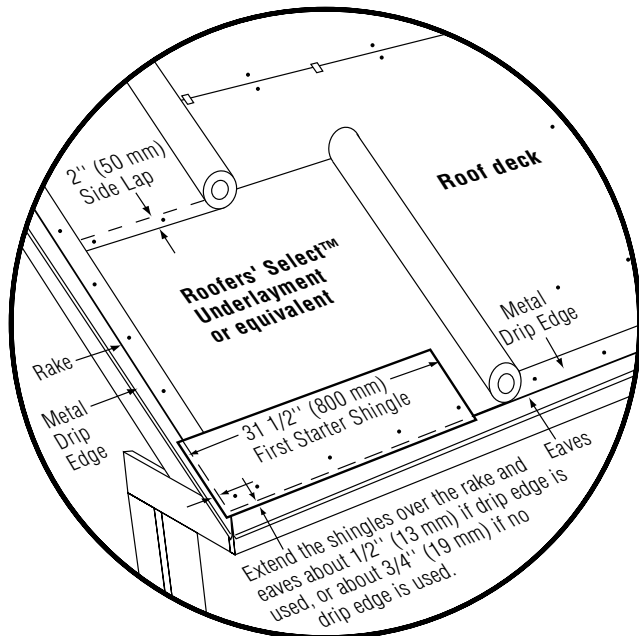

Figure 19-8: Standard slope underlayment and starter drip edge details.
- ◆ For both shingle styles, cut $4\frac{1}{2}$ " off the length of the left side of the first starter strip and apply at the lower left corner of the roof. This $31\frac{1}{2}$ " starter strip should overhang the rakes and eaves $\frac{1}{2}$ " when drip edge is used or $\frac{3}{4}$ " when no drip edge is used. Continue with full 36" lengths of starter strips all along the eaves (Figure 19-8).